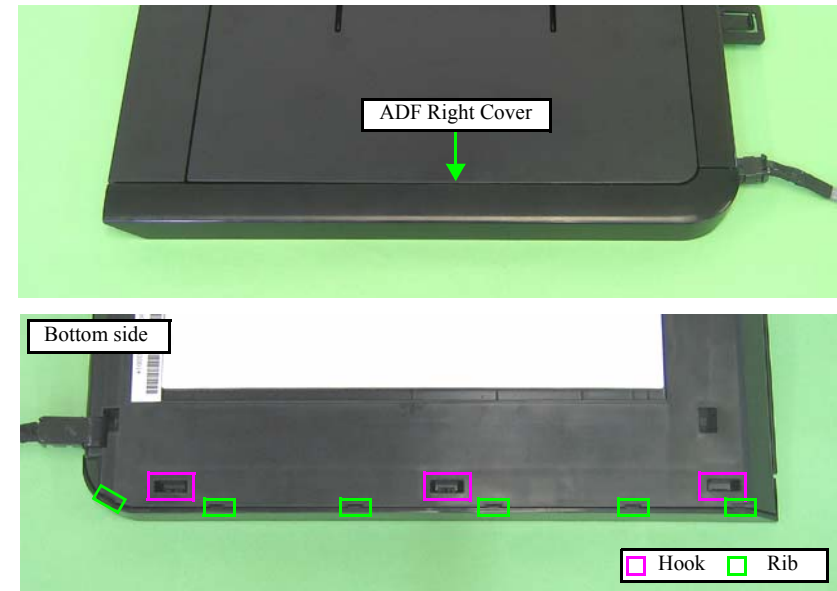

Figure 4-183. Removing the ADF Right Cover
- When installing the ADF Right Cover, align the positioning holes (x2) with the dowels (x2) of the ADF Right Cover and the ADF Base Assy, and also align the ribs (x6) shown in Fig. 4-183.